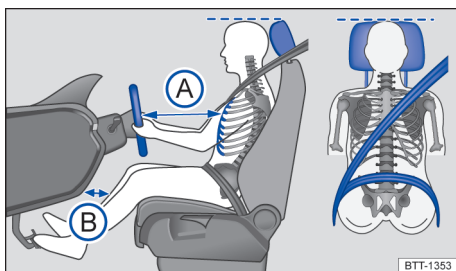

Fig. 21 Proper safety belt positioning and head restraint adjustment. The driver should never sit closer than 10 inches (25 cm) from the steering wheel.
- Adjust head restraints so that the upper edge of the head restraint is at least at eye level or higher. Position the back of your head as close as possible to the head restraint → fig. 21 (dotted line).
- Adjust the steering wheel so that there are at least 10 inches (25 cm) between the steering wheel and your breast bone → fig. 21 A, → page 103, Steering wheel. When adjusting the proper distance to the steering wheel, grasp the top of the steering wheel with your elbows slightly bent.
keeping your knee(s) slightly bent. The distance to the instrument panel in the knee area must be at least 4 inches (10 cm) → fig. 21 B.